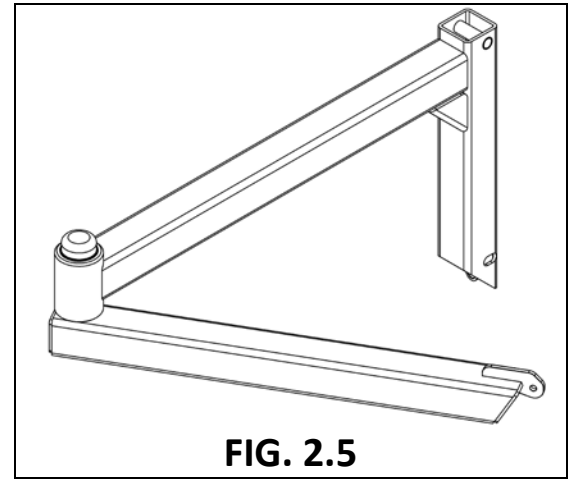

FIG. 2.5
2.2.1 Carefully remove the Articulating Arm (FIG. 2.5) from its shipping box.